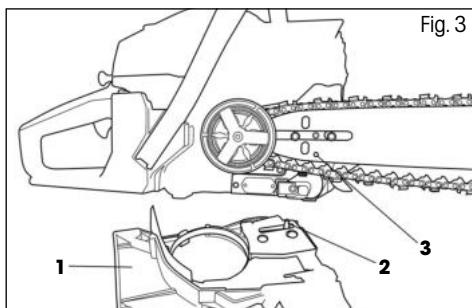
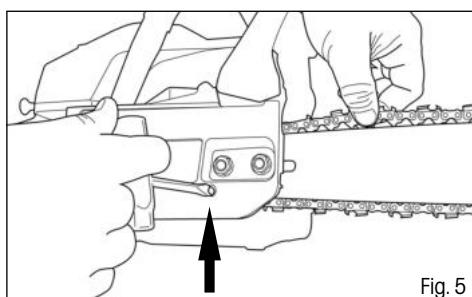

Fig. 3
Fig. 5
- ✿ Loosen two nuts and take off the sprocket cover (Fig. 3, point 1).
⚠ ATTENTION! The chain tensioning pin (Fig. 3, point 2) must fit into the hole in the guide bar (Fig. 3, point 3). The position of this pin can be adjusted using the chain tensioning screw (Fig. 5).
- ✿ Tension the chain using the tensioning screw (Fig. 5) and then tighten the sprocket cover nuts using the included tubular wrench
- ❖ Use a screwdriver to turn the chain tensioning screw (Fig. 5). Turn the tensioning screw until the required tension is achieved (you should lift the chain in the middle of the guide bar in the horizontal position to a height of 3 to 4 mm).